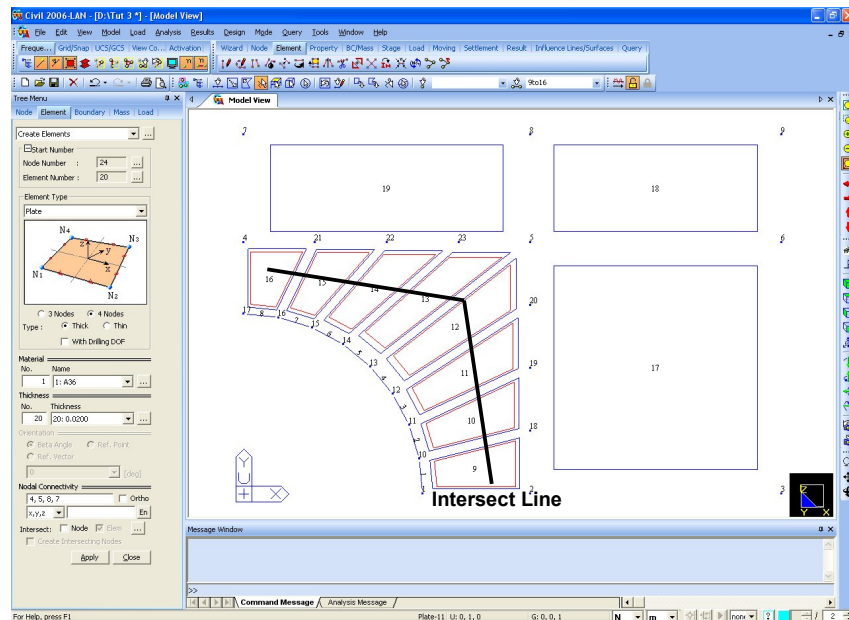

Figure 3.6 Generation of the Remaining Plate Elements of the Web
2. Use **Select Intersect** in the Icon Menu to select the plate elements **9** to **16** in area ④ (Fig.3.6).
8. Click  **Select Single** in the Icon Menu to select element **17** of area ②.
11. Select elements **18** and **19** in areas ③ and ④ respectively.